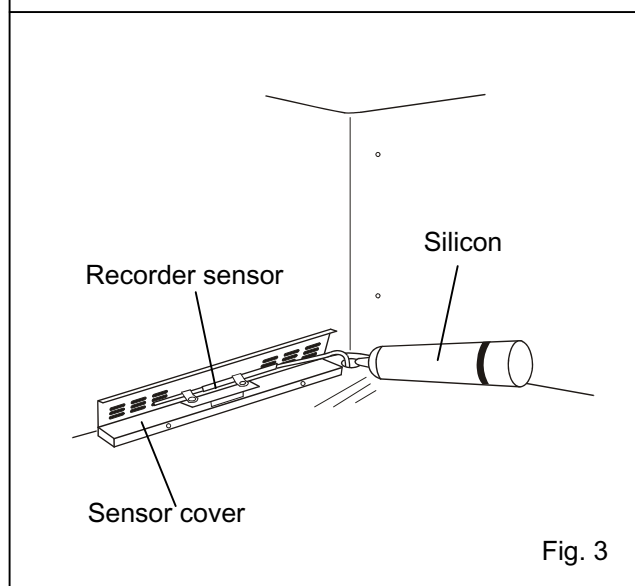

Fig. 3
4. Fix the recorder sensor to the inside of the sensor cover (MTR-C8) by using the enclosed clips and screws and seal the access port on the chamber side with a silicon. (Fig. 3)